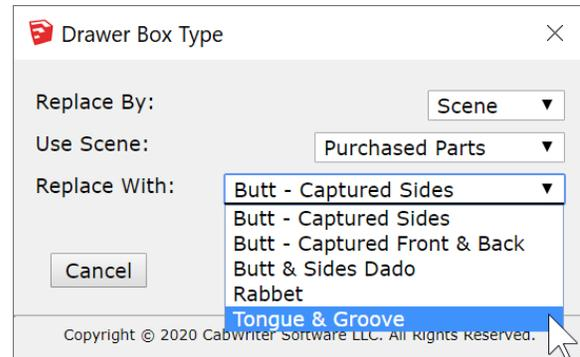

Figure 18 Drawer Box Type dialog box.
23. Added a new menu item 'Create Drawer Box Parts' to the Draw > CabWriter menu. This menu tool replaces the drawer boxes created by CabWriter with five individual drawer box parts. There are five styles of drawer box parts implemented as shown in the drop-down in Figure 18.
To use this tool choose menu Draw > CabWriter > Create Drawer Box Parts. The dialog box in Figure 18 will appear. You can